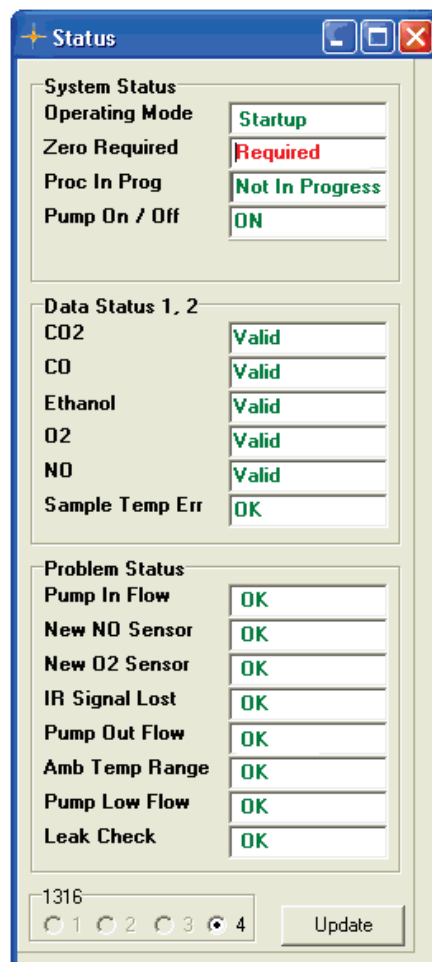

Figure 4.6. Status Window displaying Operation Mode "Start up".
1. The Multi Gas Monitor –INNOVA 1316A-3 is in Start-Up mode, see figure 4.6, Operating Mode.